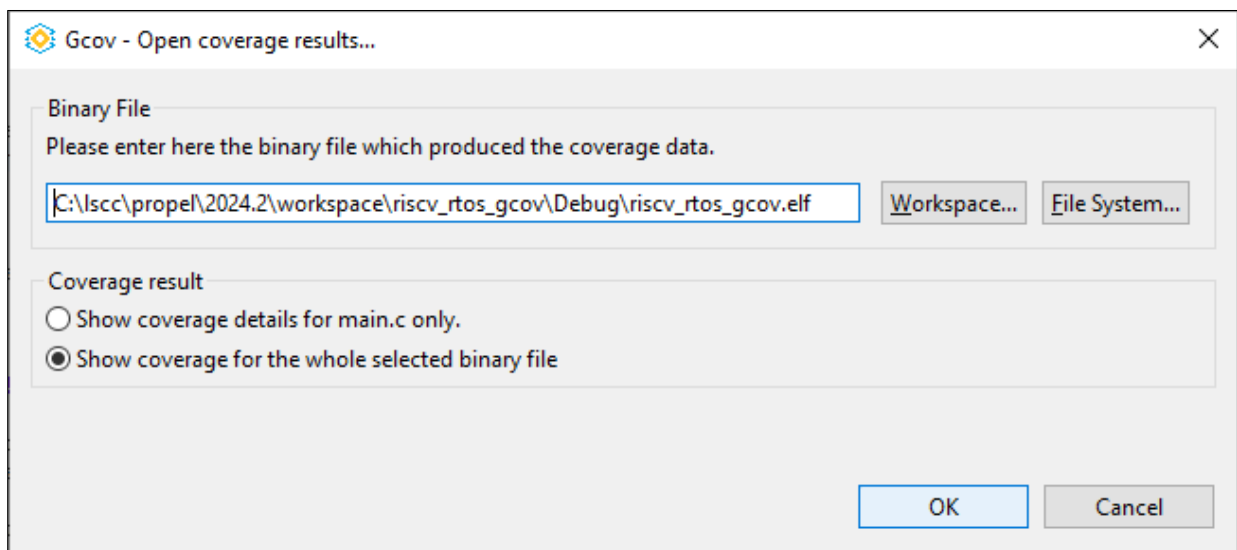

Figure 6.8. Open Coverage Results
2. Double click one of the coverage files and click OK (Figure 6.8).